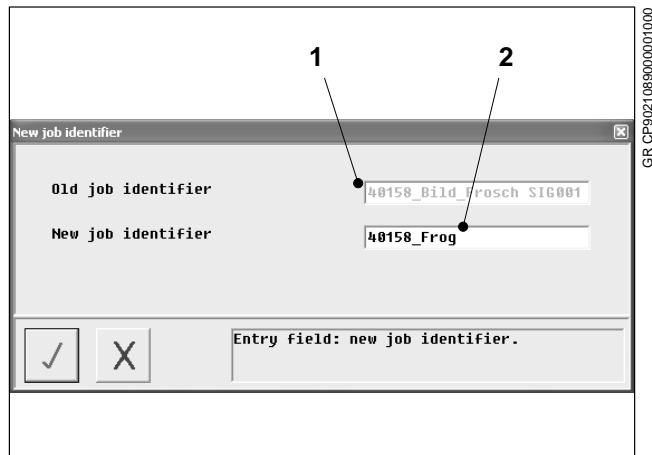

Fig. 30 The *New job name* dialog window
1. Double-click on the print job you wish to edit. The *New job name* dialog window appears (Fig. 30). The old name is shown in the *Old name* field.
2. Enter the desired name in the *New name* field (Fig. 30/2) (here "Frosch").